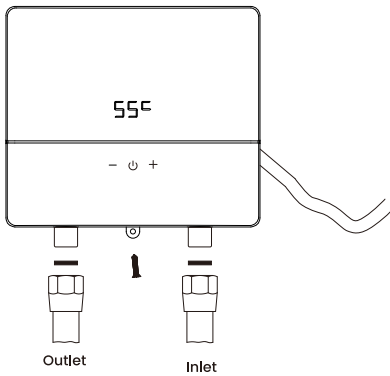
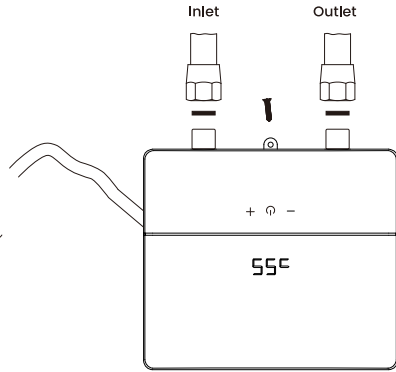

Figure 12
Figure 13
Step 7: Connect the water pipe to the water inlet and water outlet connections. Remember to install the rubber seal ring. (Figure 12) (Figure 13)
4. It is required to use G1/2" water connections to fit the appliance. Please connect the inlet and outlet pipes accordingly. (Figure 12)(Figure 13)